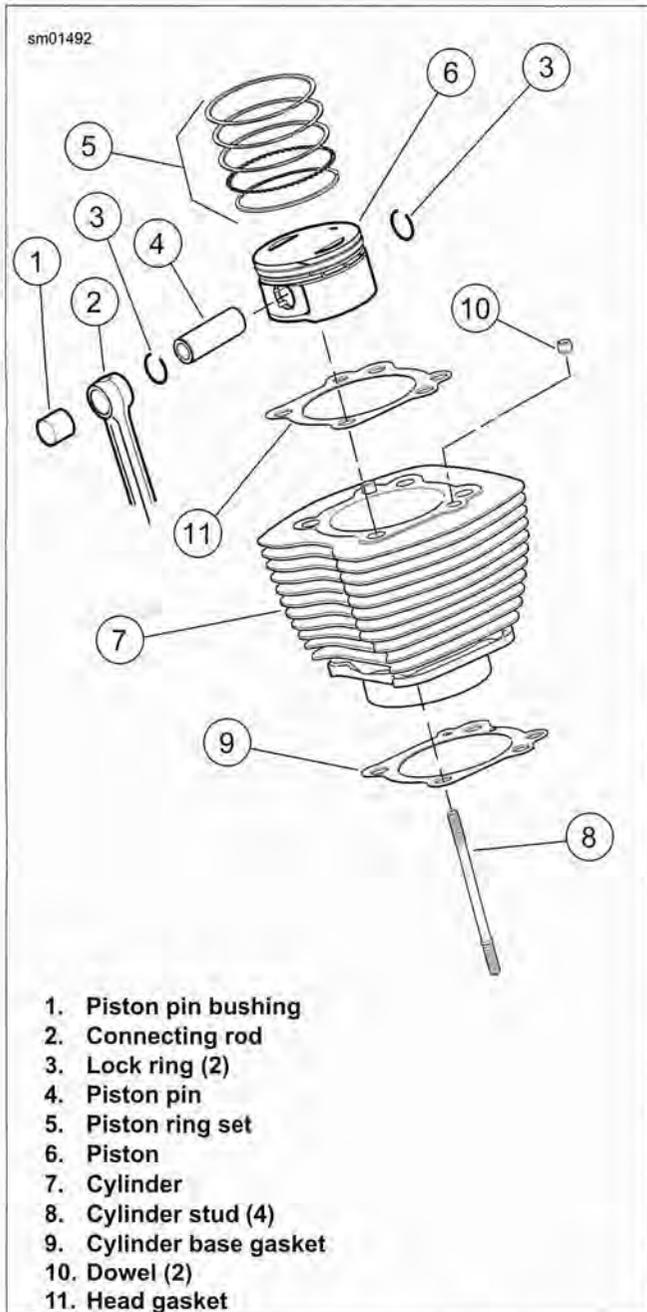

Figure 3-47. Cylinder and Piston
- See Figure 3-47. Clean crankcase around base of cylinder (7) to prevent dirt and debris from entering crankcase while removing cylinder.